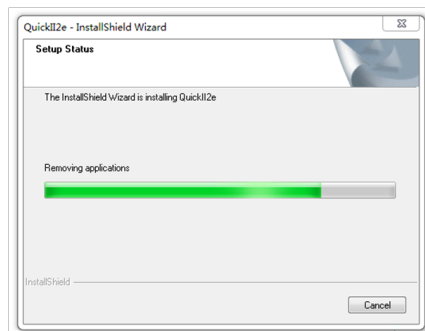

Fig 1.6 Install Shield Wizard complete
- Click the (Install) button with the left mouse button, you will enter the installation interface, as shown in Figure 1.6.
5. The installer begins the automatic installation step, as shown in Figure 1.6. If you want to quit at this time, please kindly press (Cancel) button.